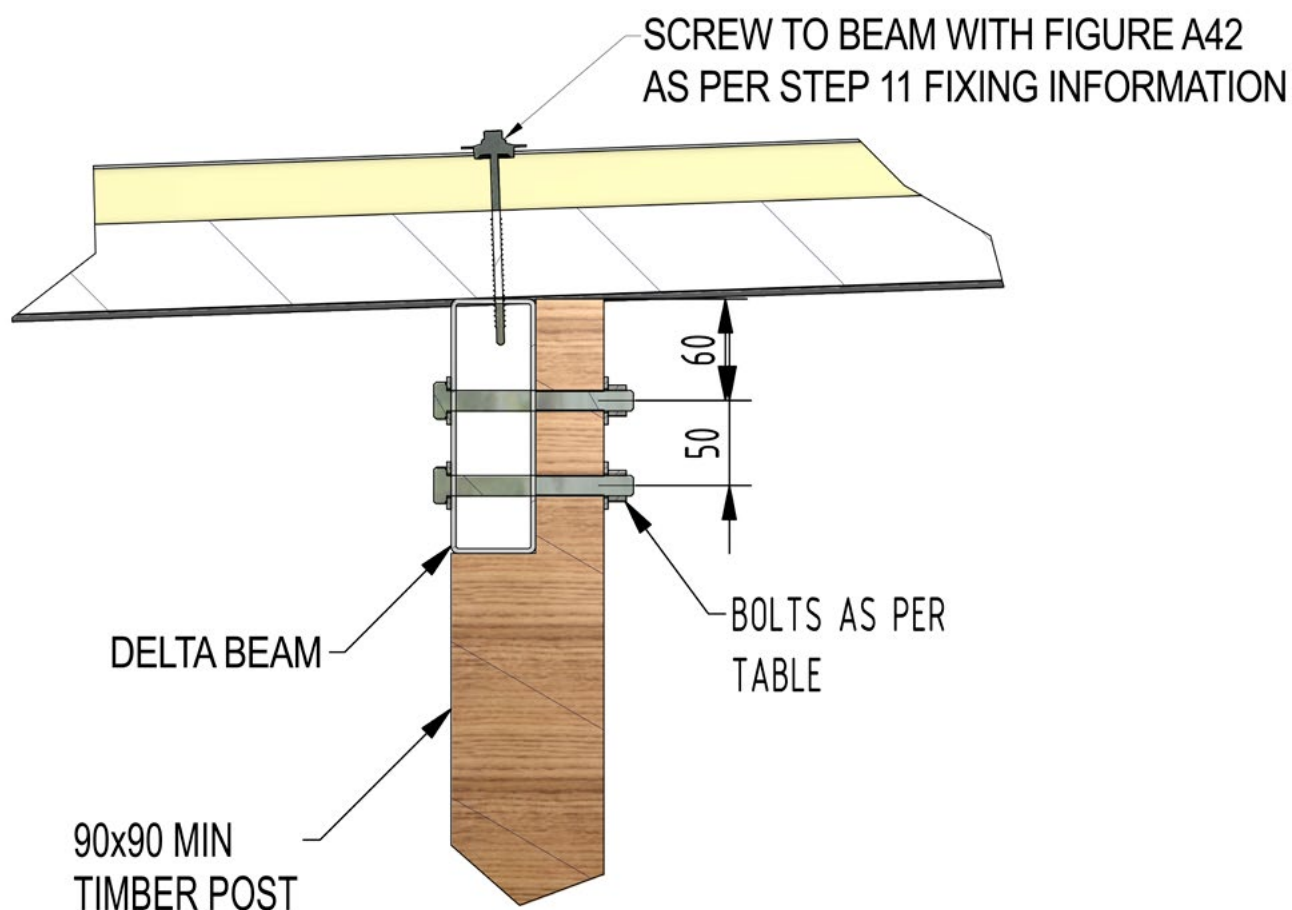

Figure A20
**Timber Post to DeltaBeam (see Figure A20)**